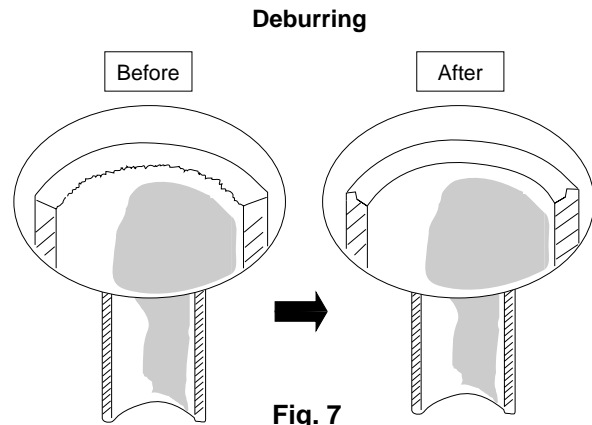

Fig. 7
- Remove burrs at the end of the copper tube with a tube reamer or file. This process is important and should be done carefully to make a good flare. (Fig. 7)